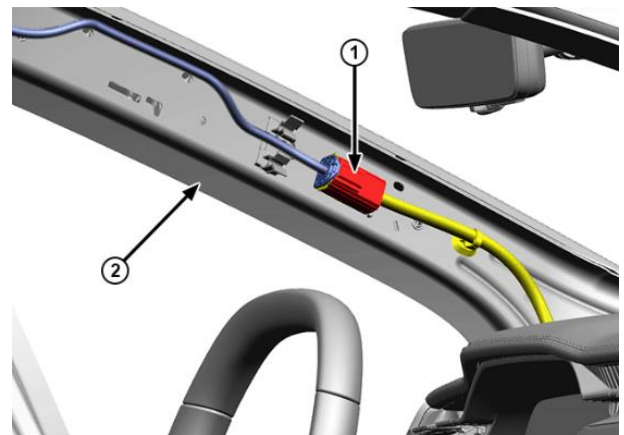

Figure 2 – Wire Harness Connector and A-Pillar (Left side shown, right side similar)
7. Release the wire harness fastener and disconnect the wire harness connector (1) at the left A-pillar (2) (Figure 2).
18. Release the wire harness fastener and disconnect the wire harness connector at the right A-pillar (Figure 2).